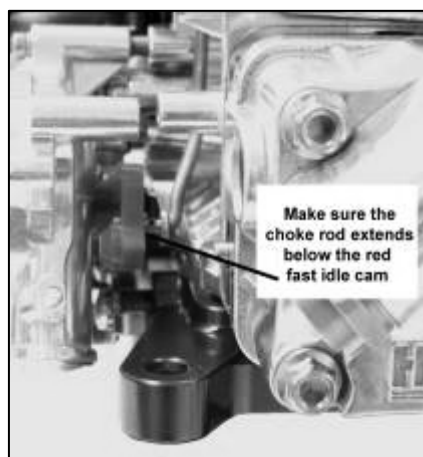

Figure 8
3. Re-attach the choke rod to the choke lever on the back of the choke housing and install the retaining clip from step 2 in disassembly. Make sure the choke rod is below the red plastic fast idle cam as shown in figure 8.